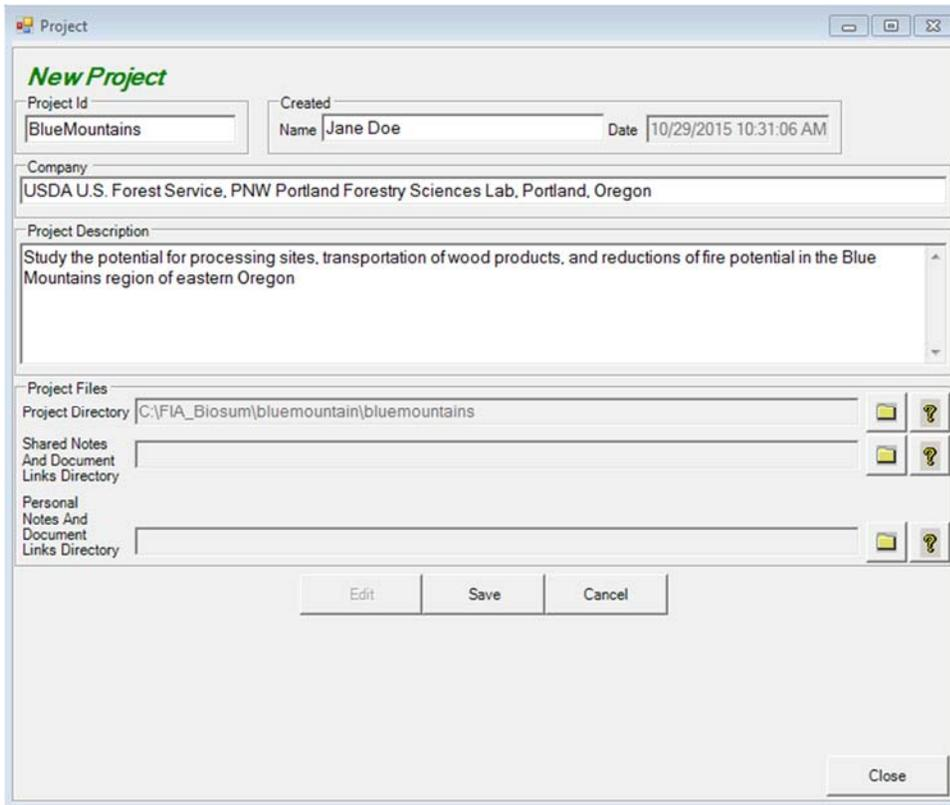

Figure 2.2 – Specify project name, description, and directory.
2. Upon selecting <New Project>, the Project form will open (see Figure 2.2). The only required information is the Project ID field. By default, the project directory will be c:\FIA\_Biosum\project id. For example, if the project id is 'BlueMountains' the default project directory would be c:\FIA\_Biosum\BlueMountains. The default project directory can be changed by selecting the folder icon to the right of the Project Directory text box and navigating to a different directory.